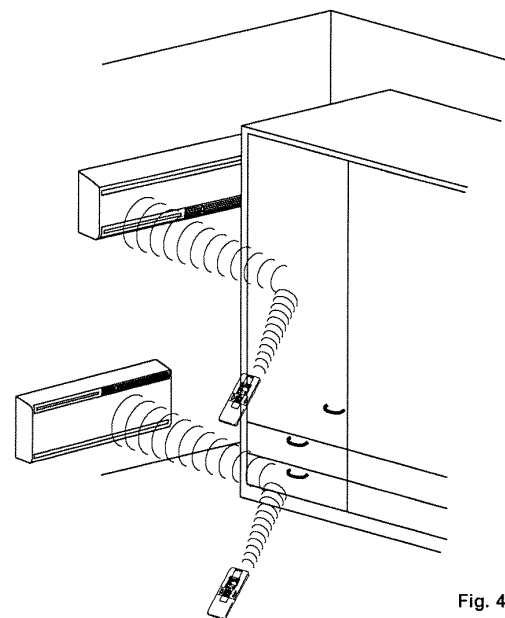

Fig. 4
- There should be no obstacles for reception of signals emitted by the remote control (fig. 4).